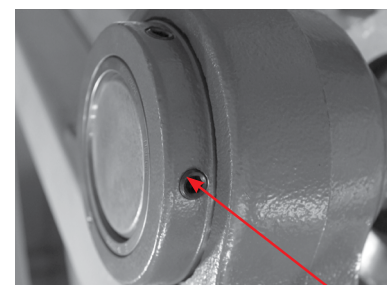

FIGURE 23. The bearing set screws, one on each side of the rotor, should be checked for tightness every six months.
- 4) The bearing set screws should be checked periodically for tightness. A bearing set screw is located on each side of the rotor (See **FIGURE 23**).